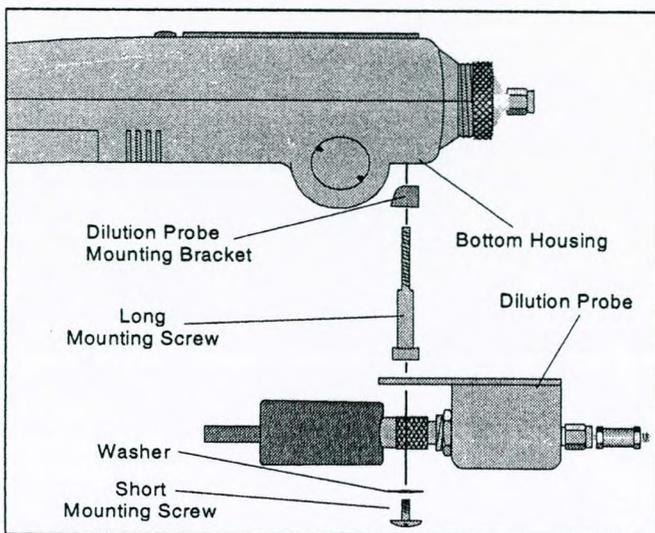

Figure 19 Installing the Dilution Probe
2. Use the long mounting screws supplied with the dilution probe to connect the mounting bracket to the 2020 bottom housing. See Figure 19.